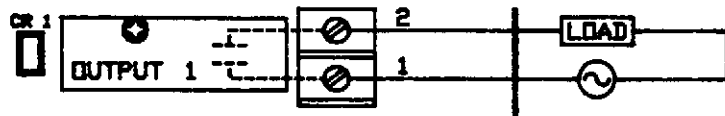

Figure 12. Typical Wiring for Output Relay
- 2 Connect the control cable to the feed valve (or other device). Figures 12 and 13 show typical wiring for output and simple input relays. Also see Appendix B for PLC state diagrams.